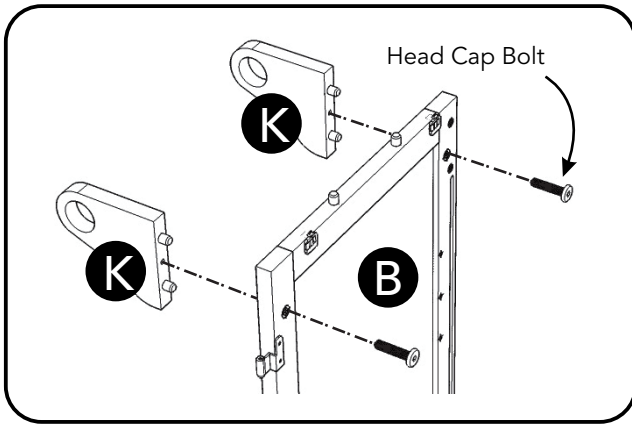

Figure 3
Attach Arms (K) to Side Panel (B) with Head Cap Bolts (short). (See Figure 3)